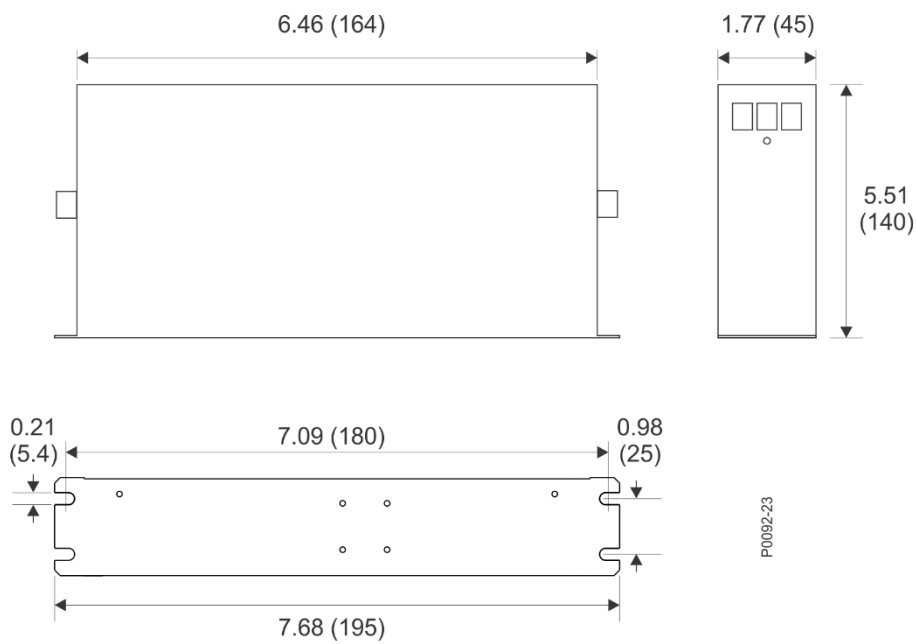

Figure 1. Line Filter Mounting Dimensions
- Using the outline dimensions shown in Figure 1. Dimensions are shown in inches with millimeters in parenthesis.